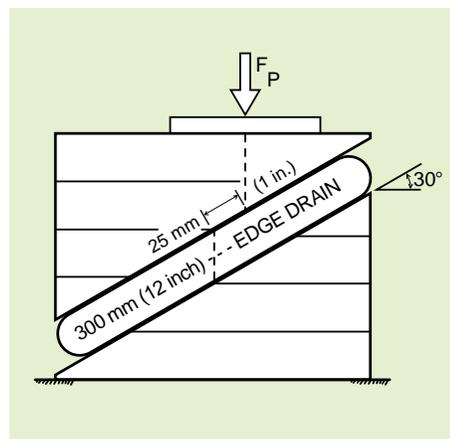

Figure 4
1. Tilted Plane Test. Originally designed by Ronald Frobel in 1991, this device places the panel pipe sample between two blocks at approximately a 30° angle, which is equivalent to the shear force on vertically installed pipe from a load imposed on the surface (see Figure 4).